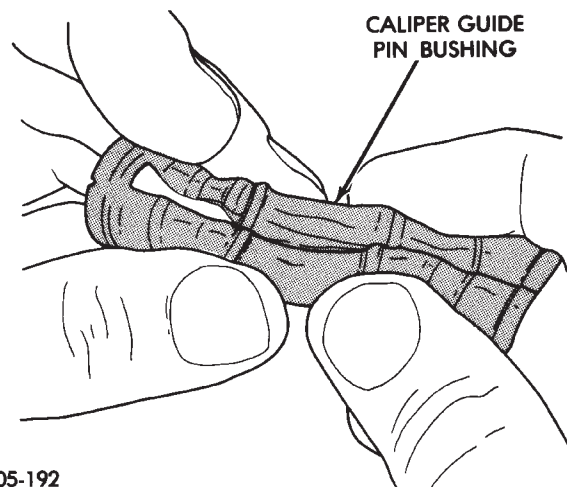

Fig. 166 Folded Caliper Guide Pin Bushing
(1) Fold the bushing in half lengthwise at the solid middle section of the bushing (Fig. 166).